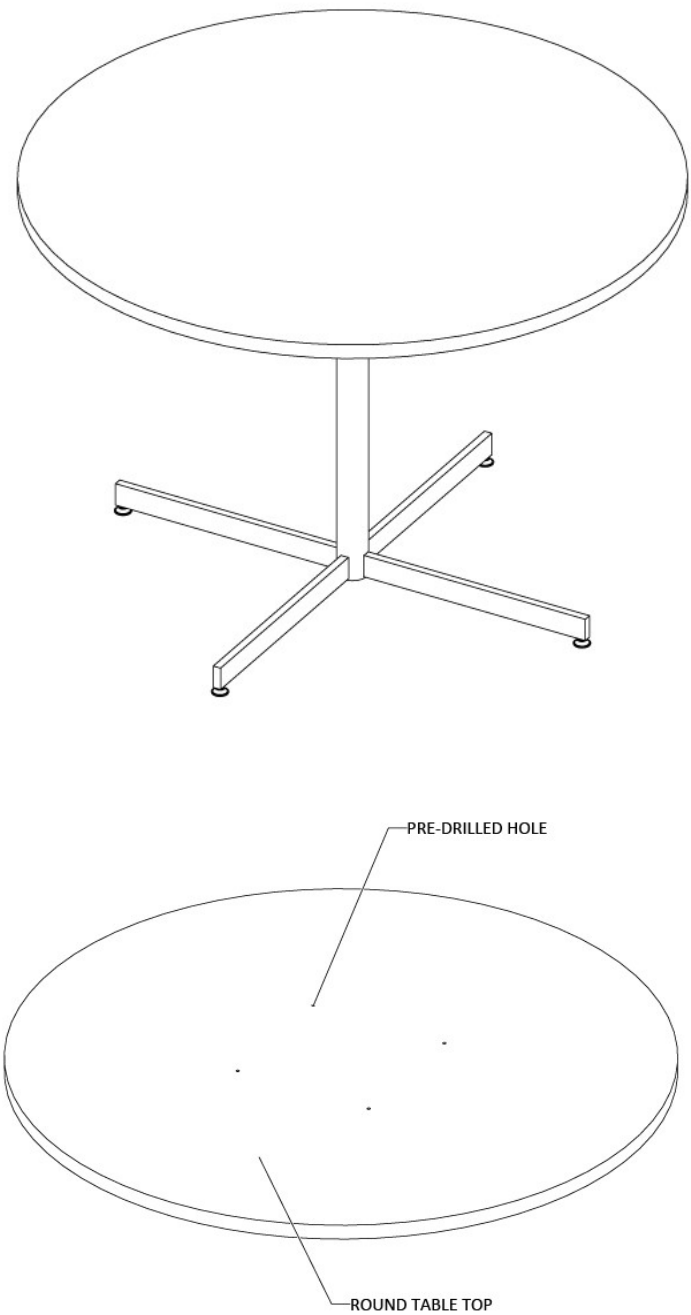

Figure 1
- 1. Place the round table top on a clean solid surface or with the underside facing up, (Figure 1).